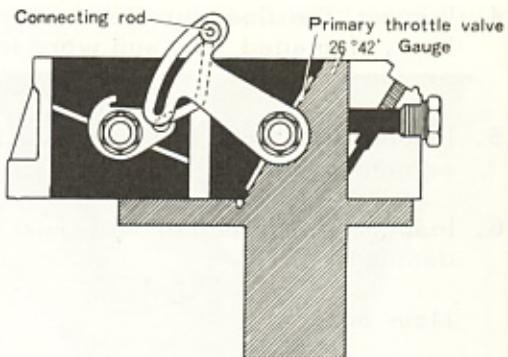

Fig.4-61 Secondary Valve Adjustment X4999
2. After assembling the primary, and secondary throttle shaft assembly, check the opening angle of the primary, and secondary valve. Place the $26^{\circ}42'$ gauge on the primary throttle valve as shown in the figure 4-61, and check the position of the throttle lever connecting rod on the primary throttle arm. The connecting rod should be at extreme end of the guide hole in the throttle arm. If necessary, adjust by bending the throttle valve link. After the adjustment, check the link to move freely.